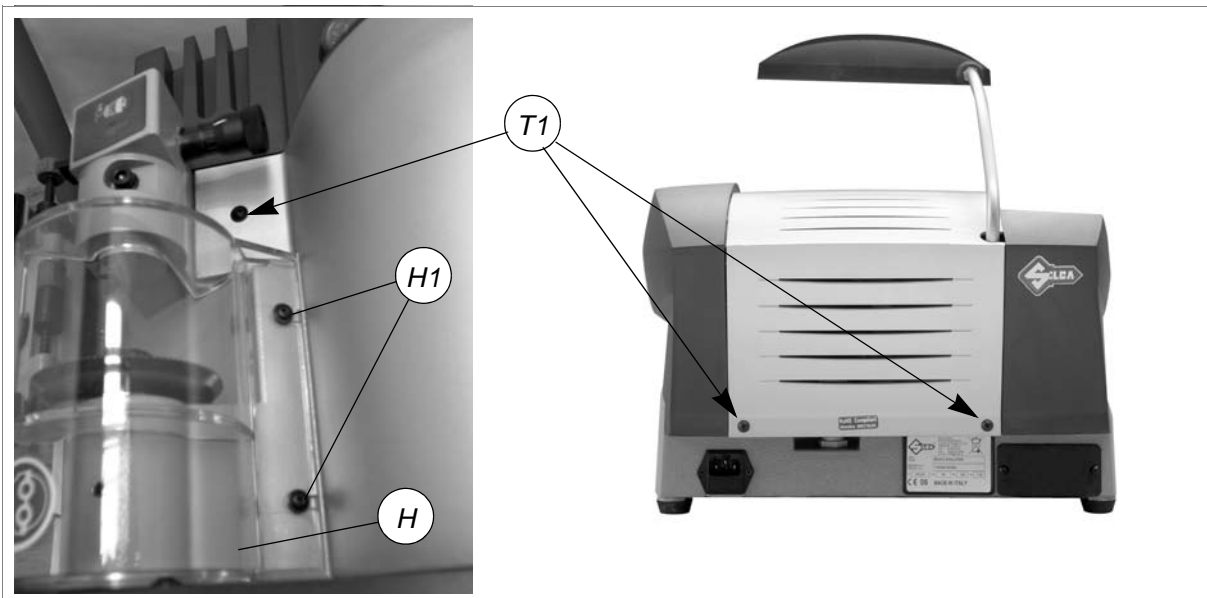

Fig. 35
- 2) Loosen the 2 screws (H1) on the cutter cover (H) and remove (fig.35).
- 2) Loosen the 2 screws (H1) on the cutter cover (H) and remove (fig. 35, page 25).
- 3) Loosen the 3 screws (T1) on the central cover (fig.35), raise slightly and remove, tipping a little.
- 7) Replace the central cover and fix with the 3 screws (T1) (fig. 35, page 25).
- 5) Loosen the 2 screws (H1) on the cutter cover (H) and remove (fig. 35, page 25).
- 6) Loosen the 3 screws (T1) on the central cover, raise slightly and remove, tipping a little (fig. 35, page 25).
- 17) Replace the central cover and fix with the 3 screws (T1) (fig. 35, page 25).
- 18) Replace the cutter cover and fix with the 2 screws (H1) (fig.35).